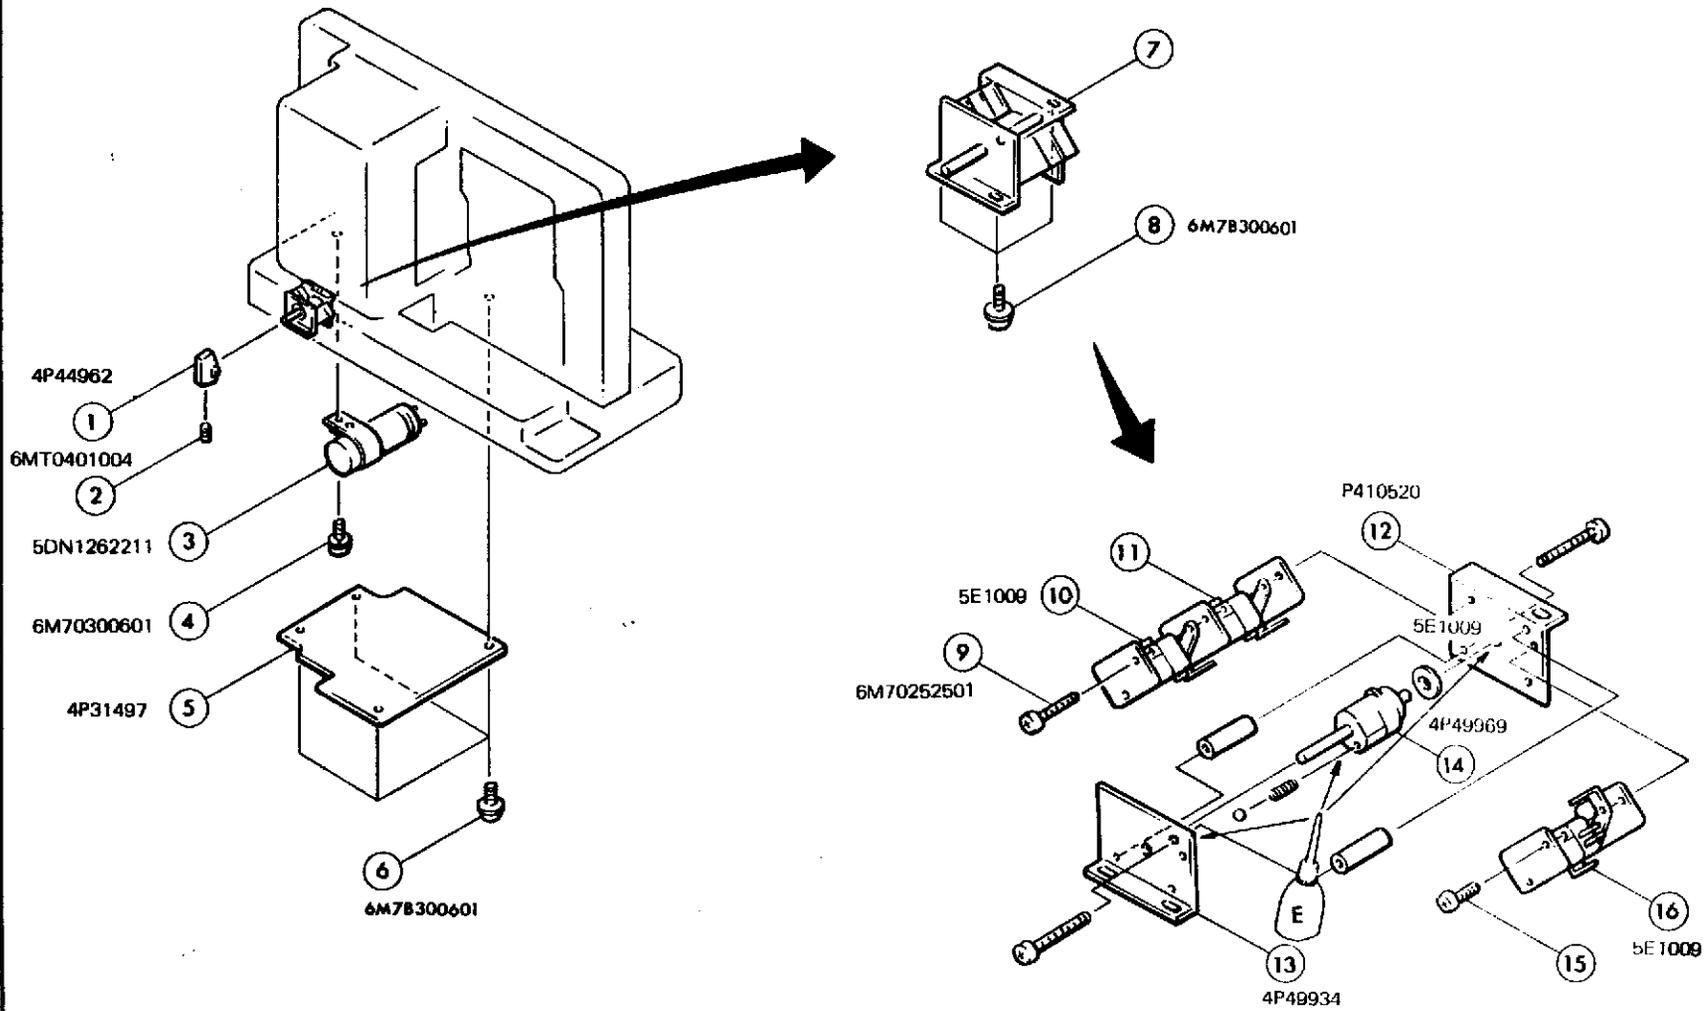

Fig.34
TROUBLESHOOTING: Refer to Fig. 34.
1. Unscrew (2) to remove (1).
2. Unscrew (4) to remove (3).
3. Unscrew (6) x 4 to remove (5).
4. Unscrew (8) x 3 to remove (7).
5. Referring to Fig. 34, disassemble further.